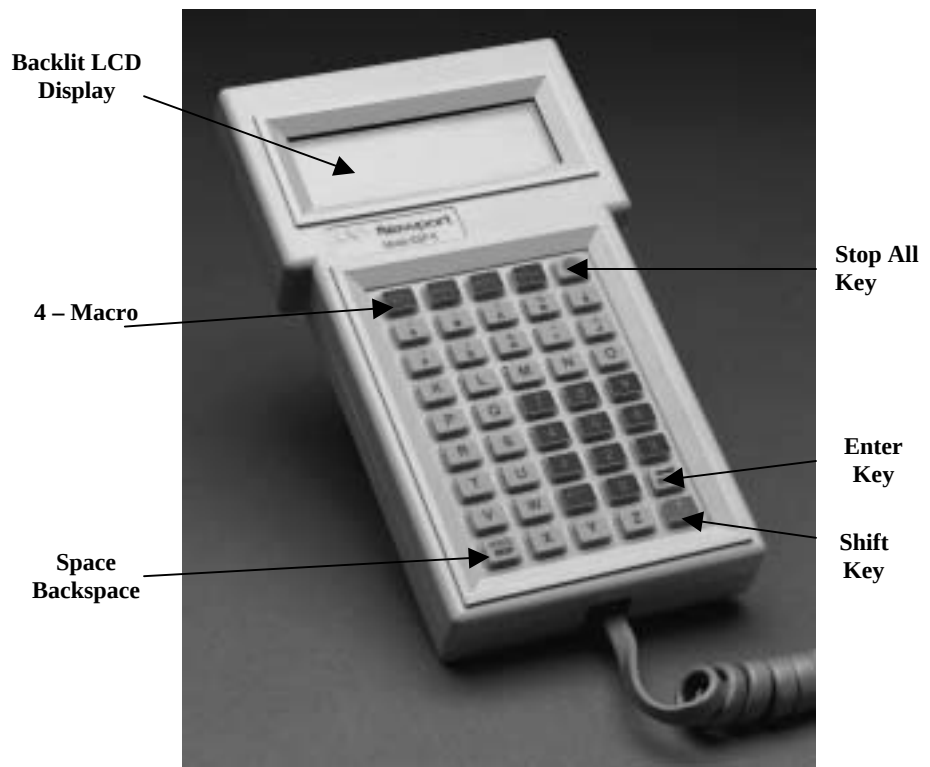

Figure 7.1: Hand-held Keypad Image
An optional alphanumeric keypad (see **Figure 7.1** below) allows the user to access the full command set of the ESP7000 without the use of a host computer. The keypad features a backlit LCD display that echoes each character typed on the keypad. Additionally, status messages are echoed to the display in certain cases (e.g., error codes).
7.1.1 Description of Keys (see Figure 7.1)